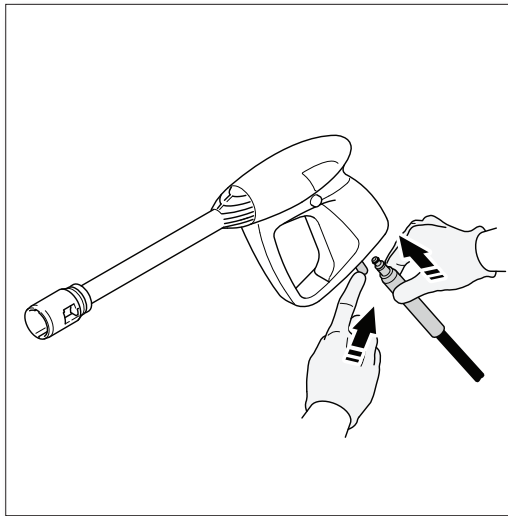

Fig.6
- Attach 20’ High pressure hose to Spray gun by pulling back on lock, and inserting hose **(Fig. 6)**.
trigger guard. The hose will slide out from the connection (**Fig. 6**).